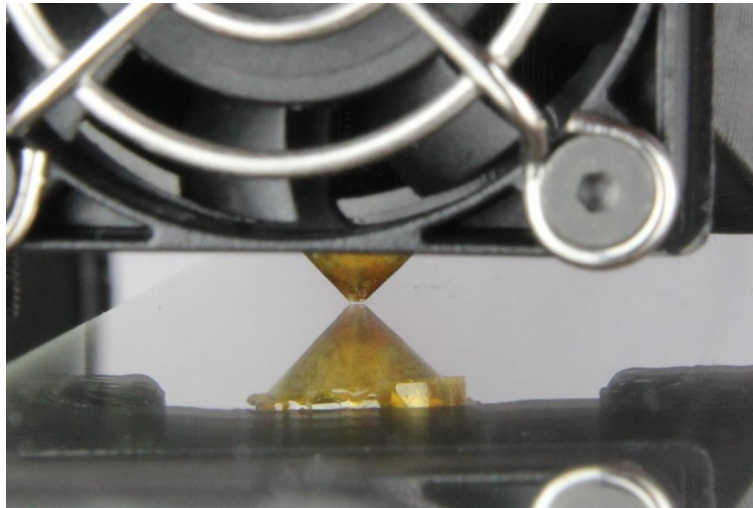

Figure 2.36: Position of nozzle tip after HBP leveling
- Repeat the above steps for 2-3 times to ensure the HBP is level. After the HBP leveling, the distance between nozzle tip and the HBP is about 0.1mm across the print surface. (Figure 2.36)